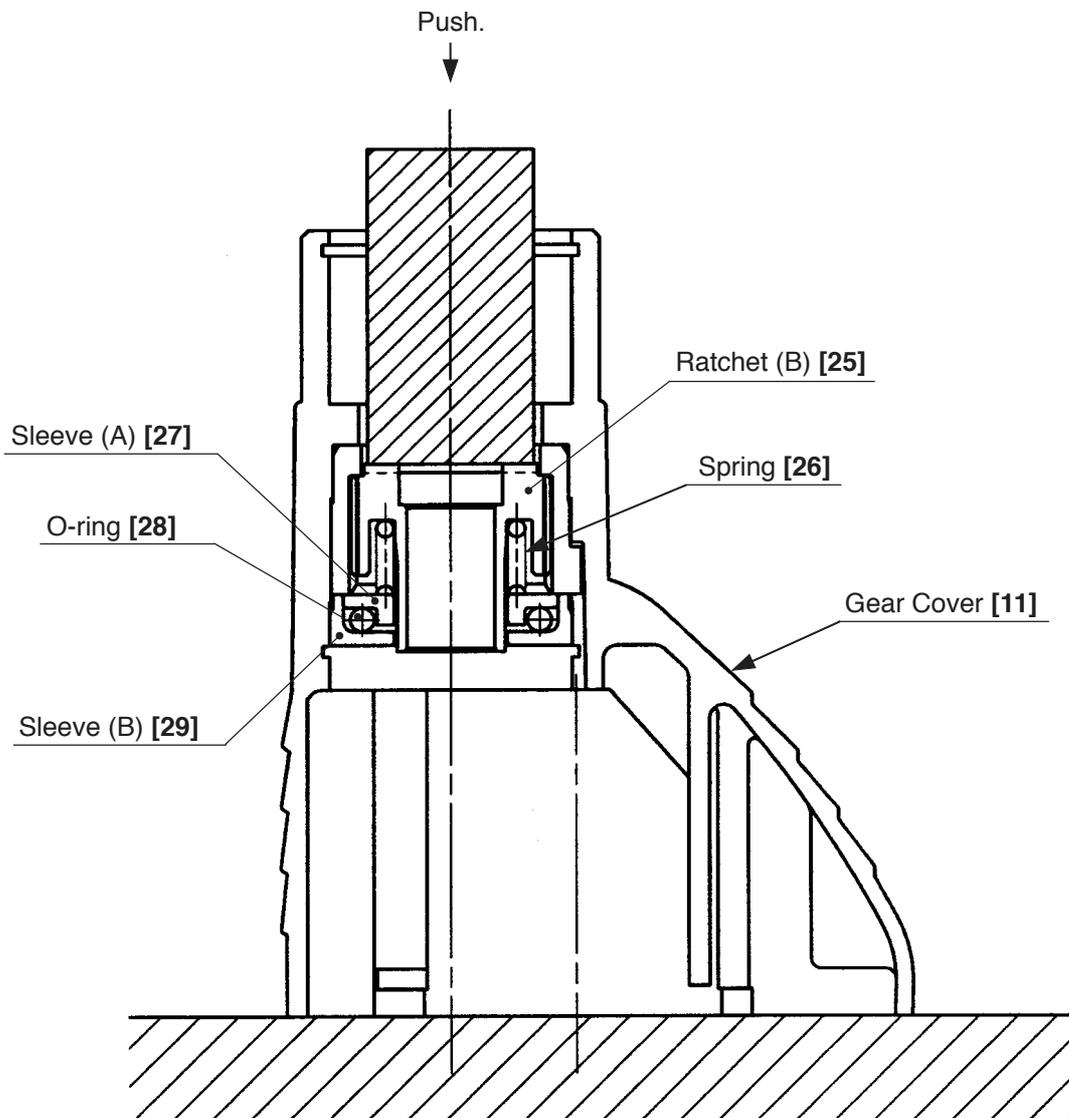

Fig. 11
As illustrated in Fig. 11, support the Gear Cover [11] with a cylindrical jig of outside diameter 24 mm, and push down on the top of the cylindrical jig, then Ratchet (B) [25] can be removed together with the Spring [26], Sleeve (A) [27], O-ring [28] and Sleeve (B) [29].